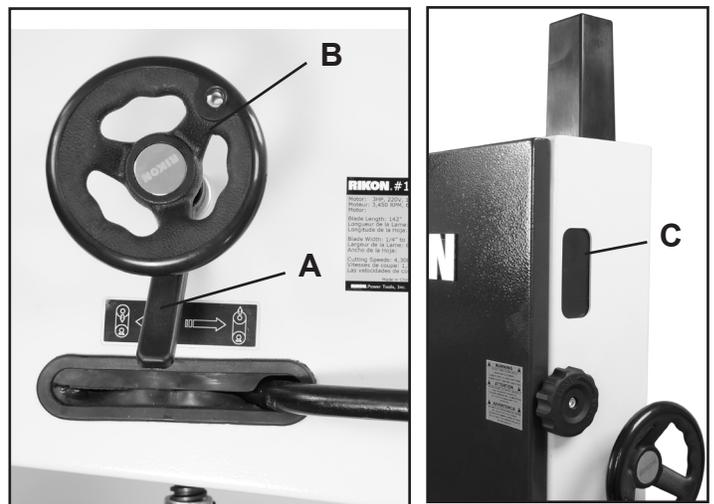

FIGURE 15
1. Open both doors. At the rear of the machine, loosen the Lock Lever (#27D, FIG. 15, A) by turning it counterclockwise.
2. Turn the Blade Tracking Handle (#28D, Fig. 15 B) clockwise or counterclockwise, while at the same time carefully turning the Upper Wheel (#17F) by hand. Reference Fig. 16, on page 14. Check the tracking of the blade on the wheel through the side window (C). Make at least three rotations of the wheel or until the blade tracks centered on the wheel.